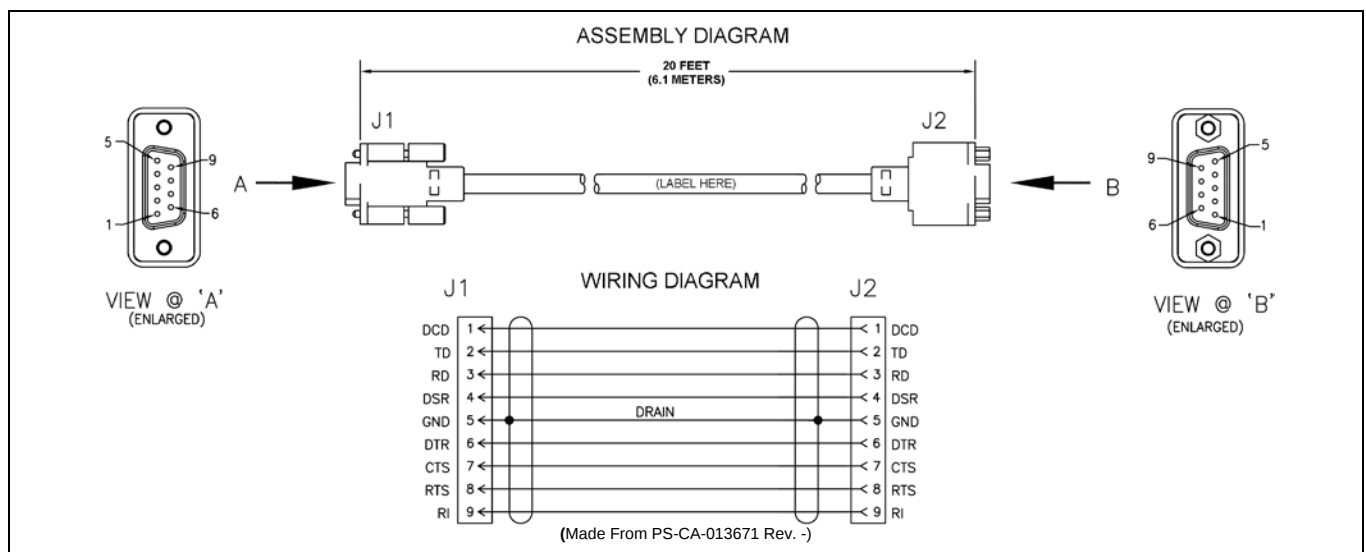

Figure 12-5: Serial Data Cable CA-013671-020
Serial Data Cable CA-013671-020 (20 feet long) can be used make data connections to the radio to support data communications equipment such as an MDT or a GPS NMEA-format device. It can also be used to program and configure the M7300 mobile radio via a Personal Computer (PC). The cable's assembly and wiring diagrams are shown in Figure 12-5 below.